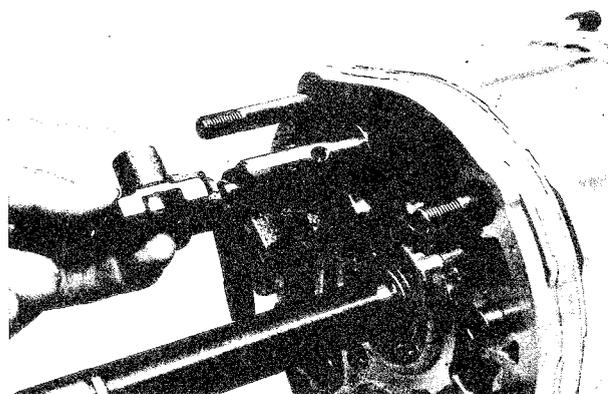

Fig. 7A-69 Installing shift rod end
53. Install the speedometer drive gear with the steel ball onto the main shaft, as shown in Fig. 7A-70, and secure it with the snap ring.